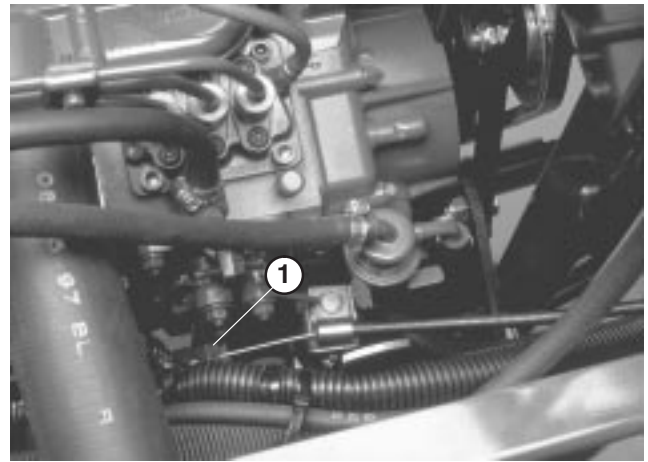

Figure 59
- Hold the injection pump lever arm (Fig. 59) against the high idle stop and tighten the cable connector.